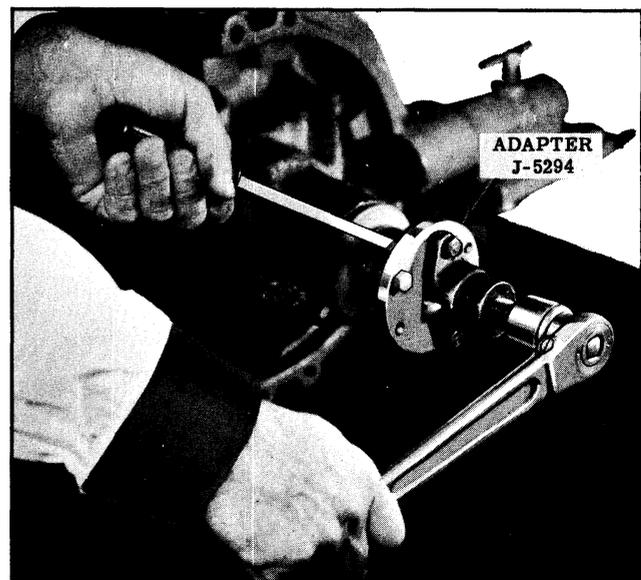

Fig. 6-12 Removing Companion Flange
5. Remove washer and then remove companion flange using puller J-962 and adapter J-5294. (See Fig. 6-12)